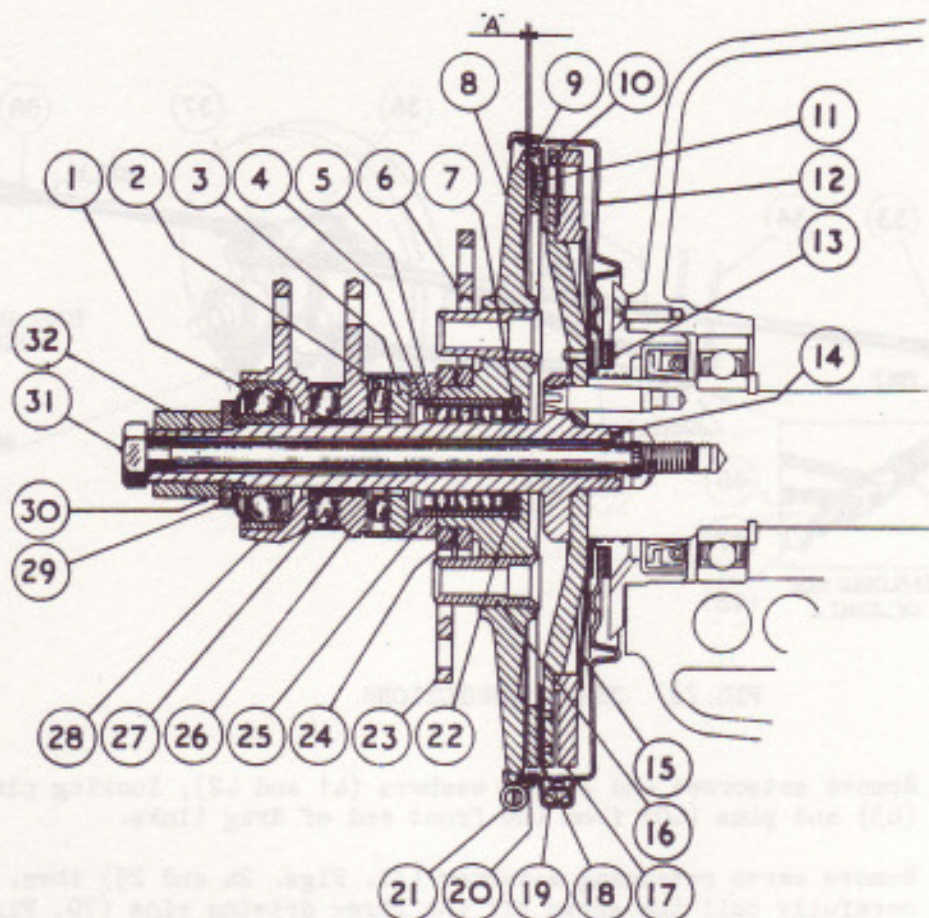
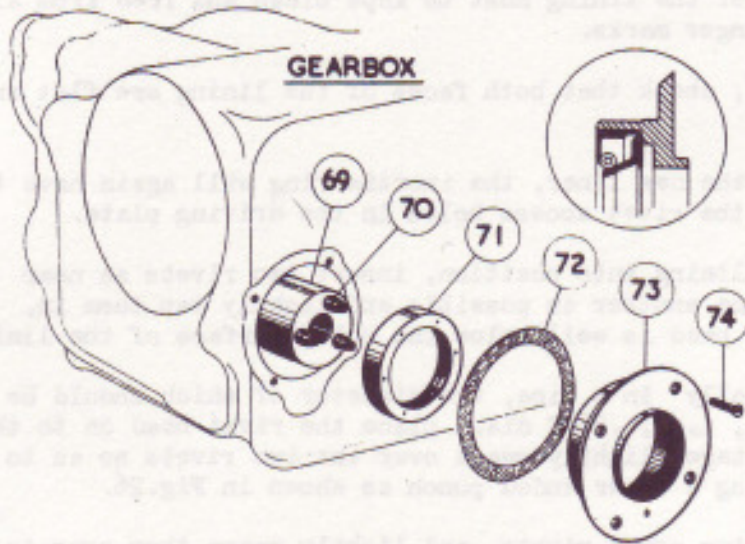

FIG. 24. SECTION THROUGH SERVO.
FIG. 27. OIL SEAL AND HOUSING "EXPLODED" FROM THE GEARBOX. INSET, THE OIL SEAL IS SHOWN CORRECTLY ASSEMBLED TO THE HOUSING.
- (v) Remove setscrews and spring washers (41 and 42), locking plates (43) and pins (40) from the front end of drag links.
- (vi) Remove servo retaining setscrew (31, Figs. 24 and 25) then, carefully pull the servo off the three driving pins (70, Fig. 27), taking care not to damage phosphor-bronze spring plate (12), against the chassis cross member.
NOTE: No further dismantling of the driving plate sub-assembly should be required beyond the removal of the Ferodo friction lining. The nine small rivets securing the Belleville washer (15, Fig. 24) to the driving plate (10) must not be disturbed. Should the driving plate be accidentally dropped or bumped during the dismantling or erecting of the servo, the Belleville washer retaining the inertia ring (17) may spring back thus taking the load off the ring. This must be corrected by pressing with four fingers around the circumference of the washer until it snaps back into position against the inertia ring.
In the event of a housing (73, Fig. 27) complete with an oil seal (71) not being available, then proceed as follows:
- (i) Remove the four countersunk screws (74) which secure the oil seal housing to the gearbox, then remove the housing.
(iii) To fit a new oil seal, place the seal squarely on to the housing with the tip of the seal pointing away from the Acme thread (the insert in Fig.27 shows the seal correctly fitted to the housing) and with the aid of a hand press, press the seal squarely into position.
(v) Examine the outer end of the servo drive shaft (69, Fig.27) for signs of roughness or grooving due to possible contact
With the spring anchored to both ends of the protector, place the protector over the spring plate and pressure plate in such a way that the spring is at the bottom and in line with the drain (19, Fig.24). "Smooth" and manoeuvre it into position by pressing with the thumb and finger round the circumference until the whole of it is in position.
- (i) Place the Ferodo sealing washer (13, Figs.24 and 25) in position on the gearbox, with the VG 100 face (black coloured) facing towards the servo.
- (ii) If due care is not taken while fitting the servo motor to the gearbox, it is possible that although the driving plate (10) has correctly engaged with the three driving pins (70, Fig.27) of the servo drive shaft (69), the flange of the servo shaft (14) may not have engaged with the driving pins. Therefore, the servo retaining setscrew (31, Fig.24) must not be fitted, until the servo shaft is fully engaged with the driving pins, or the flange might be clamped against the ends of the pins.
Place the front end of one of the two drag links on to the "upper" (inner) brake actuating lever (6, Fig.24) on the servo and insert
- (iii) Screw the pull rod 'G' (Fig.22) tightly into the jaw (35) coupled to the outer lever (28, Fig.24) of the servo. After tightening, the alignment of the jaw (52) at the other end of the rod must be corrected by releasing the locknut (33) but keeping the jaw as near as possible to the original setting. Fit the pin 'F' to the jaw and lever 'R' (with the hole in the pin towards the centre of the chassis) and secure by fitting a new split pin of the correct size.